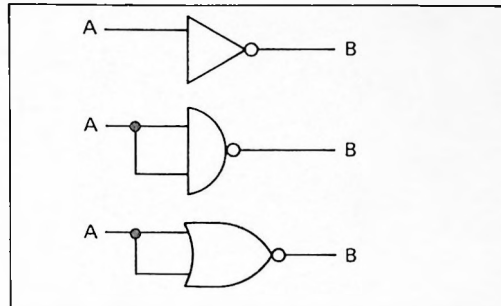

Figure C-5. Inverter Logic Symbols.
e. **Inverter.** As shown in Figure C-5, the inverter output (B) is HIGH (+5 Vdc) when the input (A) is LOW (GRD). The Inverter Output (B) is LOW (GRD) when the input (A) is HIGH (+5 Vdc). The inverter has only one input. When Nand and Nor inputs are tied together, they also function as inverters. See Inverter Truth Table, Table C-5.